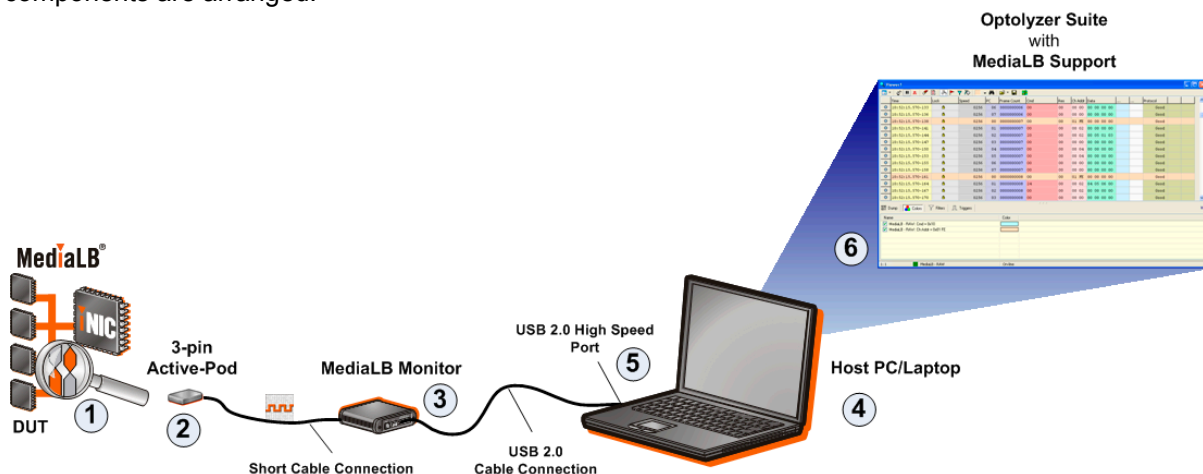

Figure 3-1: MediaLB Analyzer V2.0.X Overview
1. Check, if MediaLB Monitor ((3), see Figure 3-1) is not connected to the PC/laptop. If it is connected, disconnect the device.
Figure 3-1 gives an overview of the entire MediaLB Analyzer V2.0.X and depicts how the single components are arranged.
The steps are based on Figure 3-1 and explained from left to right.